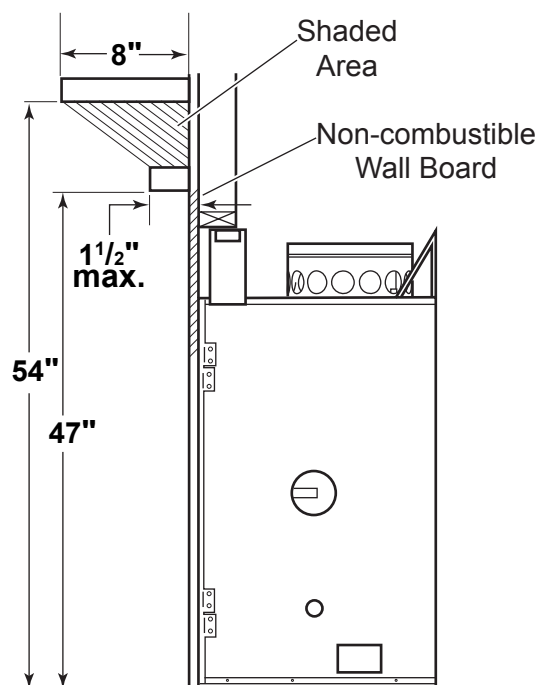

Figure 39 - Placement of Combustible Mantel and Trim without Hood
2. Combustible mantel and/or trim may be installed within shaded area in Figure 39. Use only non-combustible materials below top of spacers and behind front face.